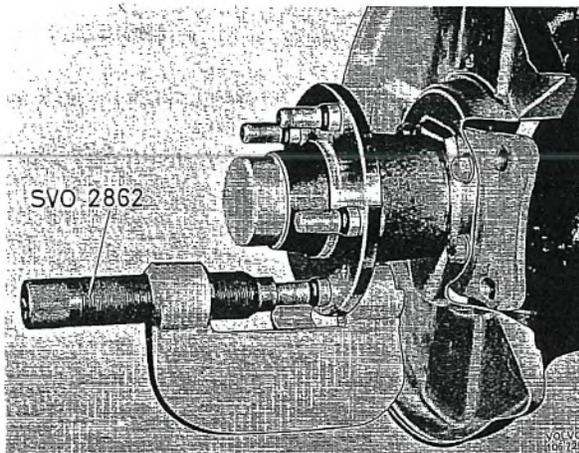

Fig. 7-14. Removing wheel stud
2. Set up tool 2862, without the accessory components, as shown in Fig. 7-14, then operate the nut runner until the stud is fully removed.